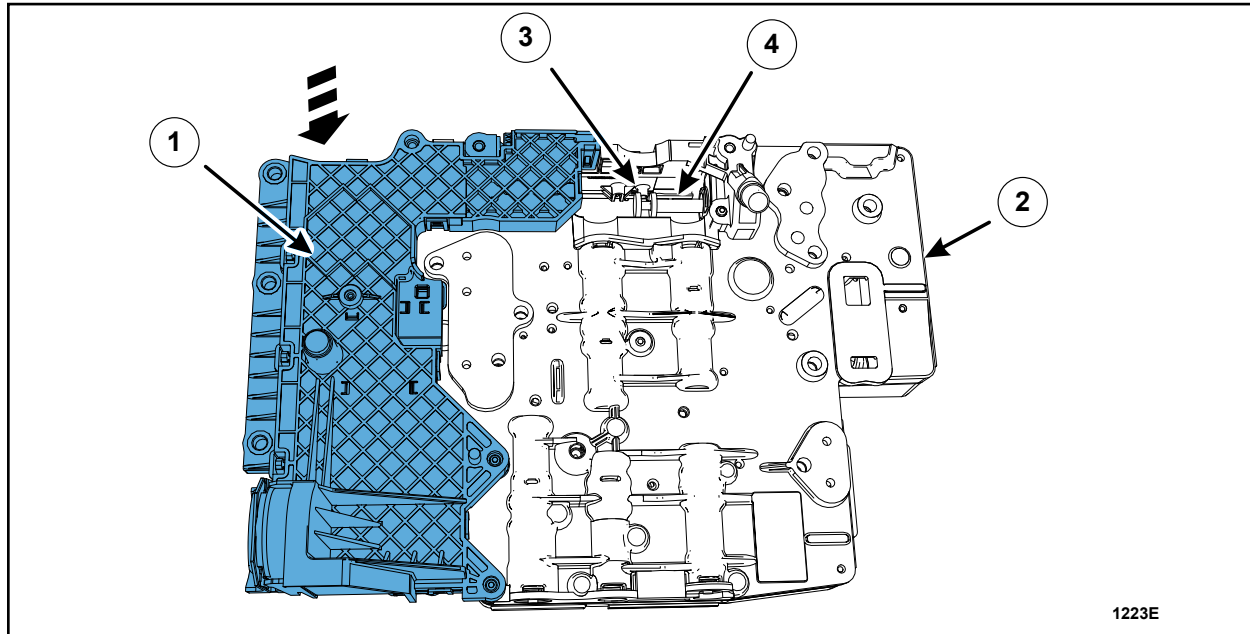

FIGURE 3
7. Install the *new* molded leadframe (1) on the main control assembly (2). See Figure 3.